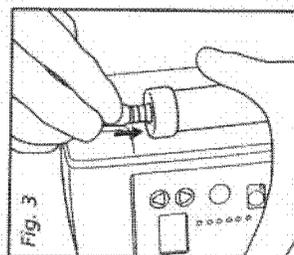

Fig. 3
7. Attach upper air tube from VapoTherm 2000i to top of cartridge (Fig. 3). Make sure tubing is not kinked.
1. Press the Power button only, to start in NORMAL MODE (Fig. 3).